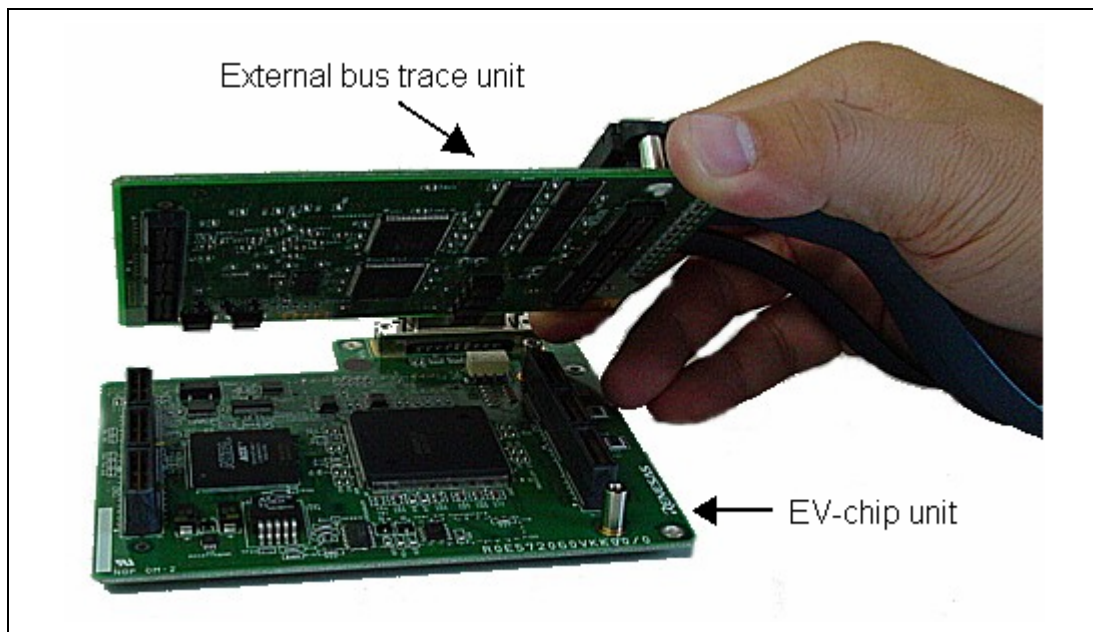

Figure 2.3 Connecting the External Bus Trace Unit to the EV-chip Unit
- When the external bus trace unit is used with the EV-chip unit, connect the external bus trace unit to the EV-chip unit as shown in figure 2.3.